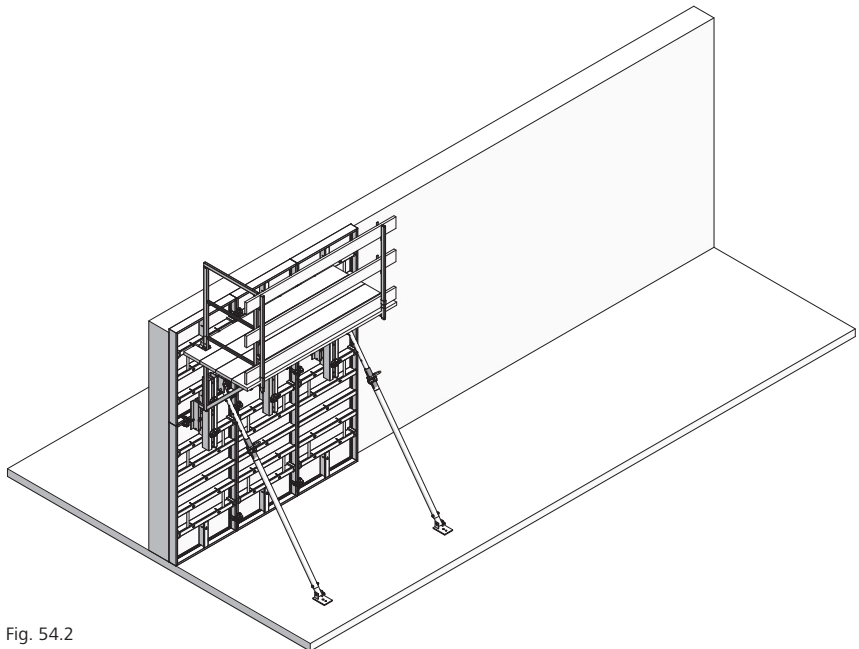

Fig. 54.2
6. Proceed with stripping the remaining gangs (Fig. 54.2).